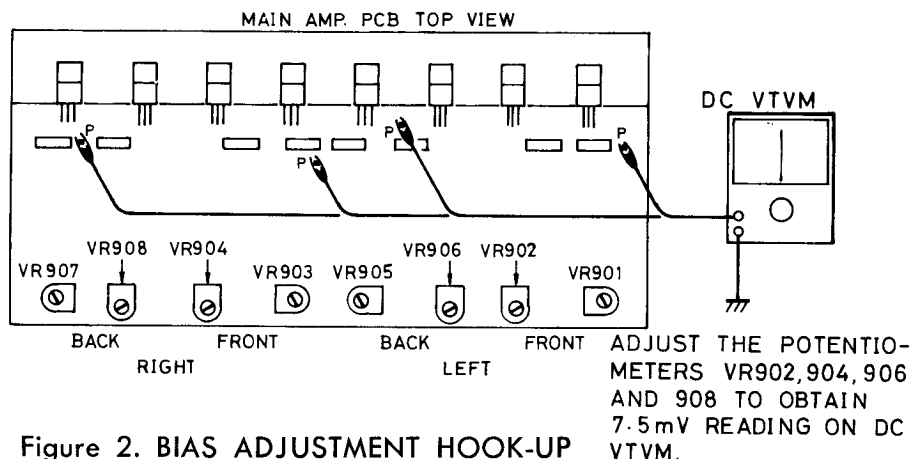

Figure 2. BIAS ADJUSTMENT HOOK-UP
2. Connect plus lead of DC milli-volt meter to Test Point P and minus lead to chassis ground. (See Figure 2). Rotate Potentiometer VR902 to obtain a 7.5mV reading on DC milli-volt meter.